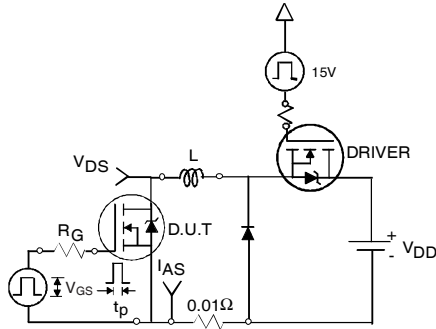

Fig 12a. Unclamped Inductive Test Circuit
- ③ I_{SD} ≤ 48A, di/dt ≤ 330A/μs, V_{DD} ≤ V_{(BR)DSS}, T_J ≤ 175°C
- ④ Pulse width ≤ 400μs; duty cycle ≤ 2%.
- ⑤ C_{oss eff.} is a fixed capacitance that gives the same charging time as C_{oss} while V_{DS} is rising from 0 to 80% V_{DSS}.
- ⑥ Limited by T_{Jmax}, see Fig.12a, 12b, 15, 16 for typical repetitive avalanche performance.
- ⑦ This value determined from sample failure population. 100% tested to this value in production.
3. Equation below based on circuit and waveforms shown in Figures 12a, 12b.